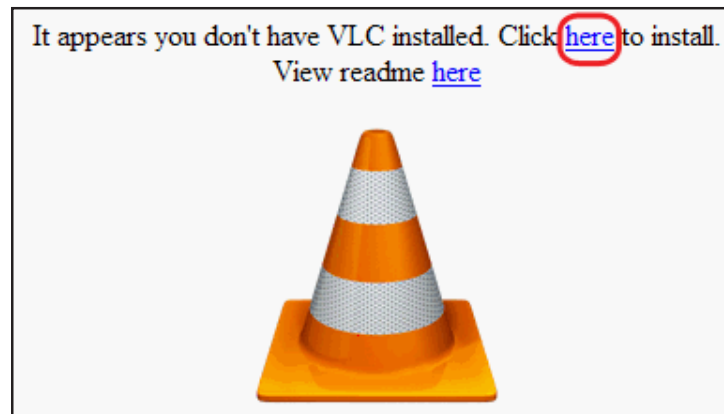

Figure 41. Live View Page – Media Player Installation Prompt
2. When the VLC media player prompt appears on the Live View page, click on the first **here** link (see figure 41).
- If the link shown in figure 41 does not appear on the Live View page and a blue player window (with Extron logo) is displayed (see figure 28 on page 48), a version of VLC media player is already installed. Verify the installed VLC media player is version 1.1.10 or version 2.0.2 (open the player, select the **Help** menu from the toolbar, then select **About**). If neither version is installed, uninstall the player and do this procedure again.
- If the link shown in figure 41 does not appear on the Live View page and VLC media player has not been installed previously to the control PC or viewing device, see "Installing VLC media player using the File Management Page" on page 62.